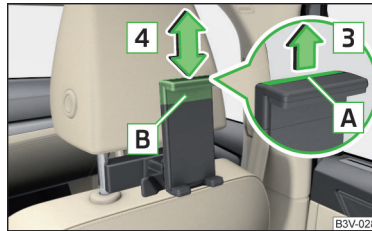

Fig. 139
- ▶ To **adjust the holder size**, pull out the securing tab **A** in the direction of arrow **3** and push the part **B** in the direction of arrow **4** to the desired position » Fig. 139.